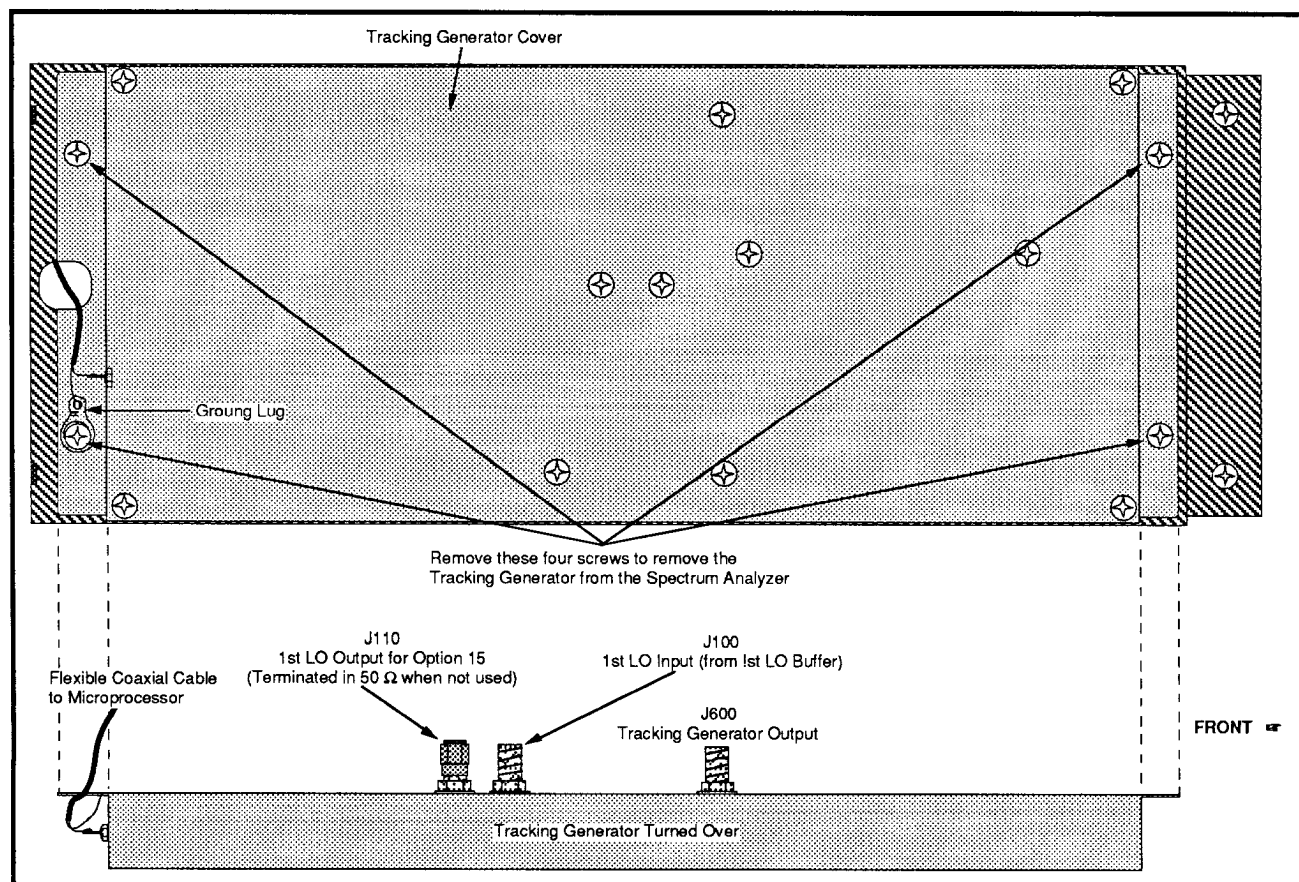

Figure 4-12. Removing the Tracking Generator from the Spectrum Analyzer.
Disconnect the 50  $\Omega$  terminator from J110, the tracking generator output cable from J600, and the 1st LO Cable from 1st LO Buffer to J100 (see Figure 4-12).
Remove four phillips head screws from the corners of the left side cover. See Figure 4-12.
Use a male-to-female SMA cable to connect the LO signal from the 1st LO Buffer to J100 (Figure 4-12).
(a) Monitor the 1st LO output (J110) on the Isolation Amplifier board with the power meter. See Figure 4-12 for the location of the 1st LO output.
- (g) Replace the 50  $\Omega$  terminator to J110 on the Isolation Amplifier board or move the 50  $\Omega$  terminator from J101 on the rear panel to J110 on the tracking generator if Option 15 is installed (Figure 4-12).
- (2) Adjust Isolation Amplifier Output Level**